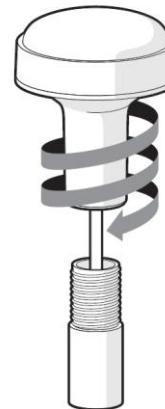

Figure 4
- Feed the ten metre long cable attached to the GPS antenna cable through the pole and screw the antenna onto the pole mount as shown in Figure 4.